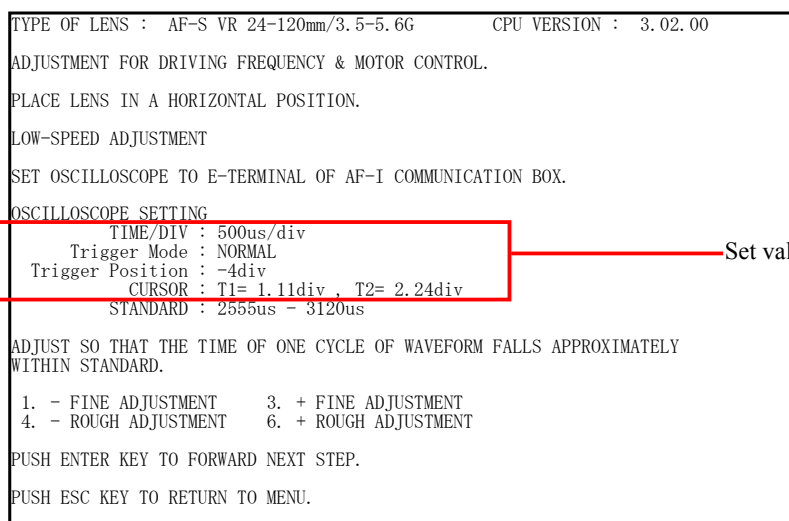

Fig. 2
- Based on “Fig. 2” on the screen, set the low-speed adjustment for lens and oscilloscope.
As shown in Fig. 2, “div” value within standard is displayed on PC screen.
The standard value, TIME/DIV, and CURSOR(T1,T2) varies according to the conditions of low-speed adjustment, high-speed adjustment, and other lenses, etc, so check by Fig. 2 of the PC screen when adjustment is made.